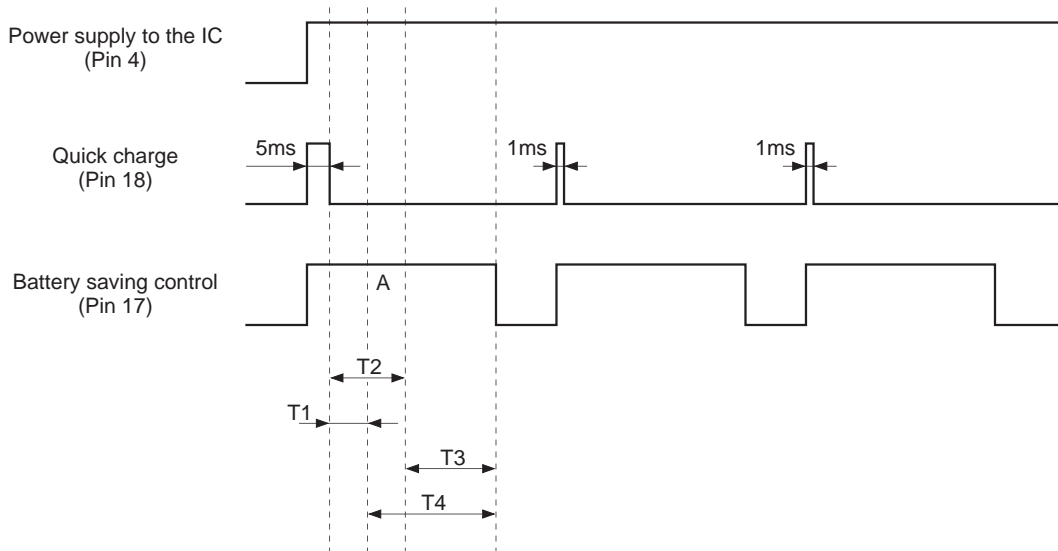

Fig. 3
- T1 in Fig. 3 : 2-level data setting time after quick charge
- T2 in Fig. 3 : 4-level data setting time after quick charge
- T3 in Fig. 3 : 4-level data can be obtained
- T4 in Fig. 3 : 2-level data can be obtained